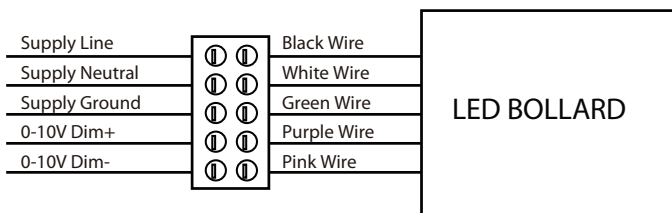

Fig 8
9. Connect the wires, then tighten the terminal block with a flat-head screwdriver, and check to make sure all wires are in good connection Fig. 8.